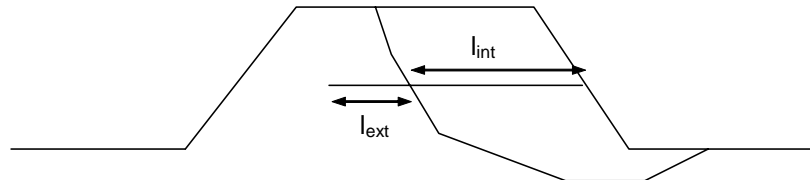

Figure 51: traction calculation
- **Calculation method for traction:** for strips, one can consider 2 failure types because of a lack of adherence: internal and external. Indeed, strip heads are not always anchored, and the failure can then occur on either side of the failure surface: Talren can (Figure 51):